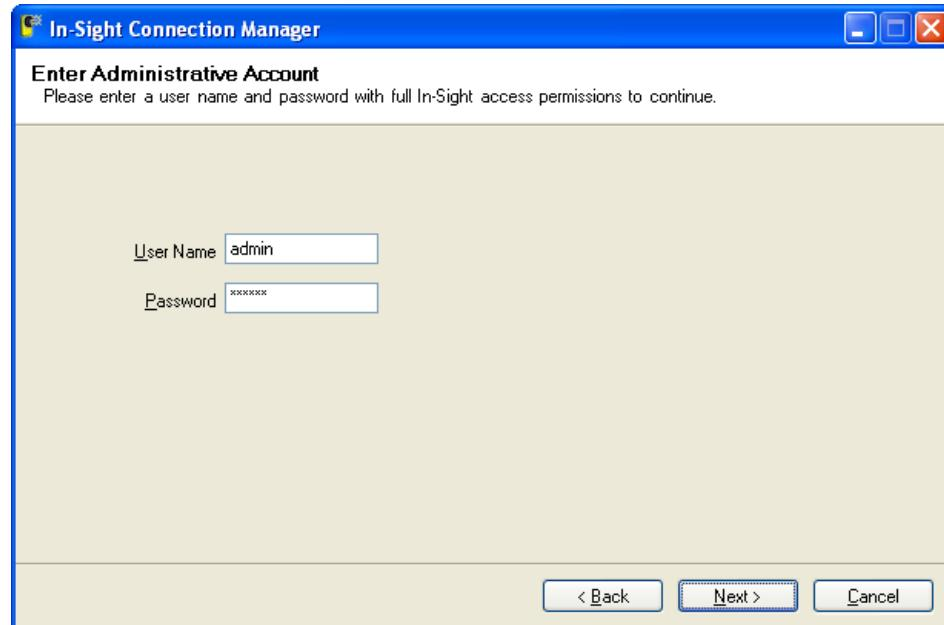

Figure 2-15: User Name and Password
4. You may need to supply administrative credentials (User Name and Password) for at least one In-Sight sensor on your network in order to proceed (Figure 2-15). Click Next.